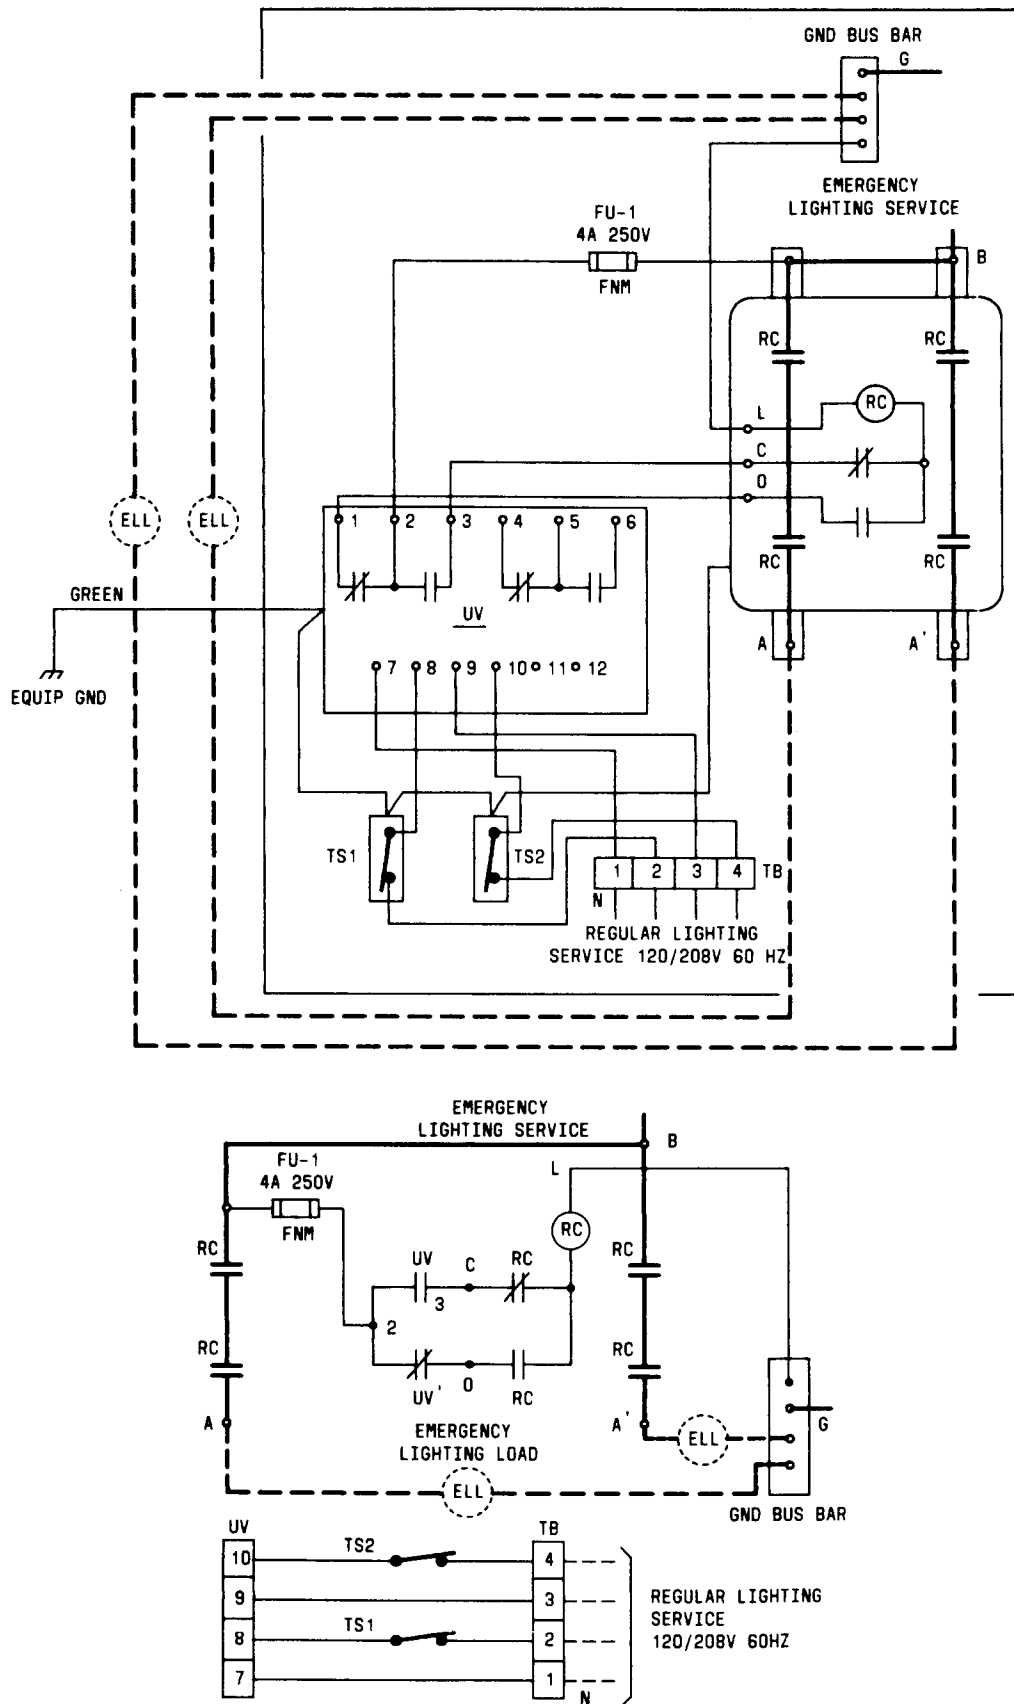

Fig. 5—3-Phase Emergency Lighting Relay Switch Circuit Schematic (New Version)
**2.04 3-Phase Operation:** The 3-phase undervoltage monitor is designed to energize the chassis mounted output relay, whenever the voltage level on all three phases exceeds the preset pickup point. The monitor will de-energize the output relay whenever the voltage level on any one or more phases falls below the preset dropout point and remains at this level until the time delay has expired. (See Fig. 5.) Should the voltage level of the low phase raise to a point slightly above the dropout setting before the time delay